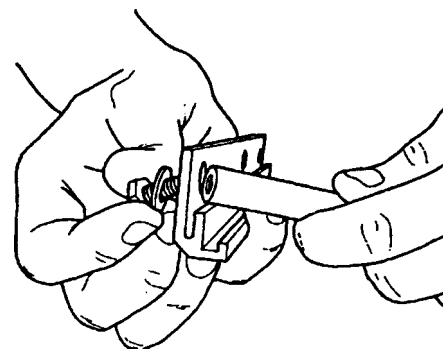

Fig. 1
1. Place a washer (3) on a bolt (2), then thread the bolt through the extension bar (1) and into a rod's (4) end hole, as shown in Fig. 1. Make sure that the top of the bar (which will support the workpiece) is resting against the side of the rod. Finger tighten.